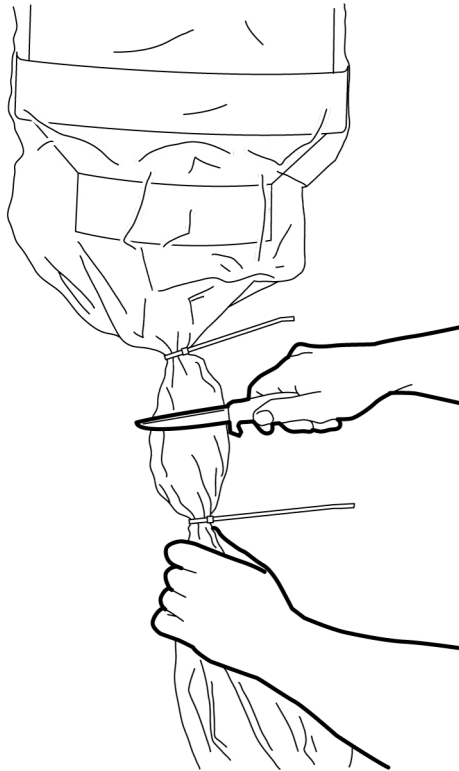

Figure 4-4. Cut or slice off the bag
3. Cut or slice off the bag between the ties, see Figure 4-4, page 15.